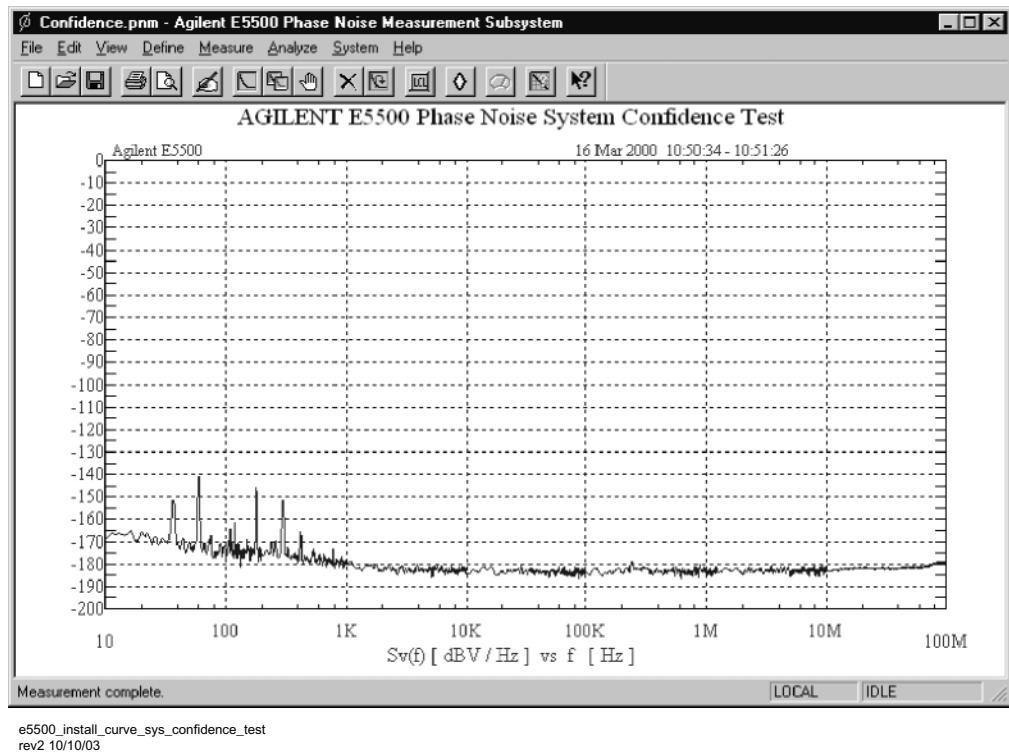

Figure 12 Typical phase noise curve for test set confidence test
- Figure 12 on page 45 shows a typical baseband phase noise plot for an phase noise test set.
You have completed a phase noise measurement. This measurement of the test set's low noise amplifier provides a convenient way to verify that the system hardware and software are properly configured for making noise measurements. If your graph looks like that in Figure 12, you can be confident that your system is operating normally.